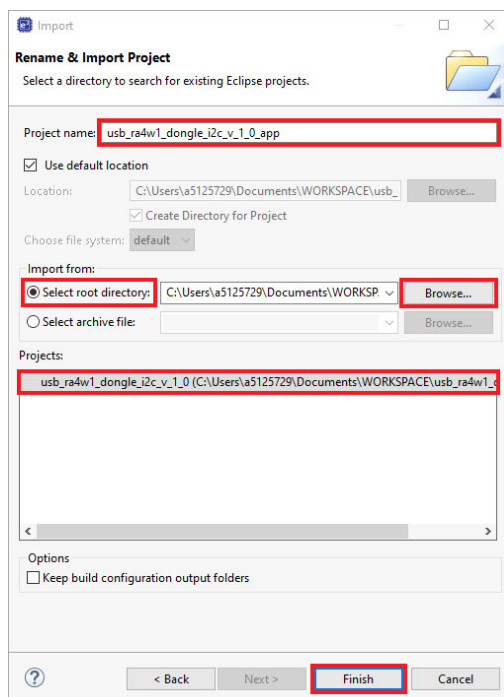

Figure 23. Selection of the Sample Project
12. In the Rename & Import Project window, enter a project name (Figure 23). Renesas recommends using the same name as the original project with a suffix ***_app**.